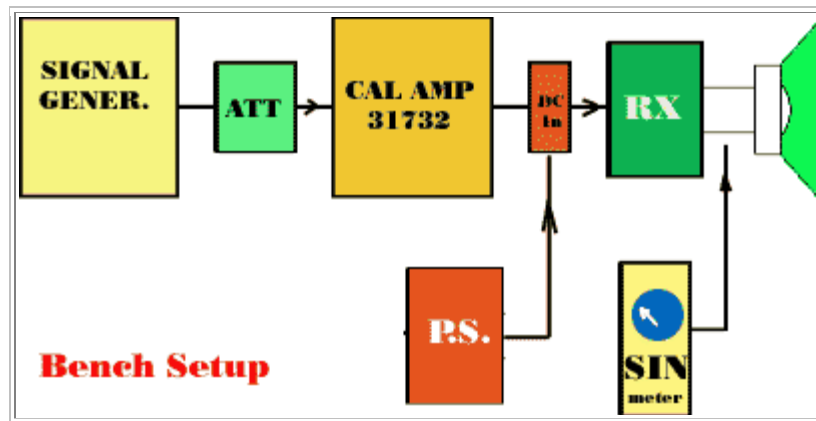

FIG.3
Fig.3 shows the "Bench setup". You need a good quality "Signal Generator" (i.e HP) and probably an additional ATTenuator between Generator and 31732. Keep in mind, during retuning, the sensitivity of 31732 spectacularly increasing and sometimes the "built-in" ATTenuator is not enough. The 31732 following by a usual "DC insertion" unit, for Voltage feeding. A small Power Supply (PS) 18V / 0.5 A is enough.